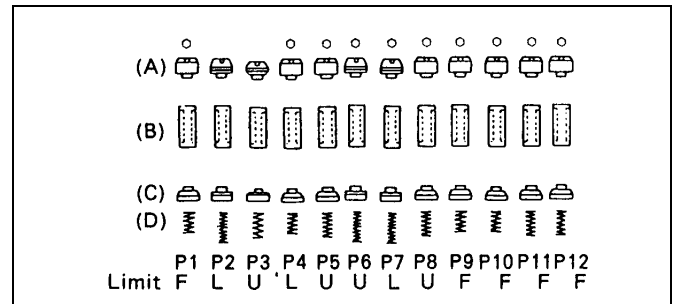

Figure 7-9-2 Each Post Rollers
5. Remove post roller unit (B) as shown in figure 7-9-2. Be sure not to loosen post spring (D)